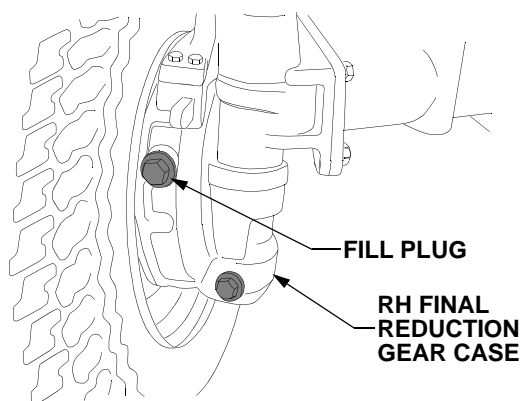

Figure 45
- Locate the fill plugs approximately midway up on the rear of the *right* and *left* gear cases. See Figure 45.